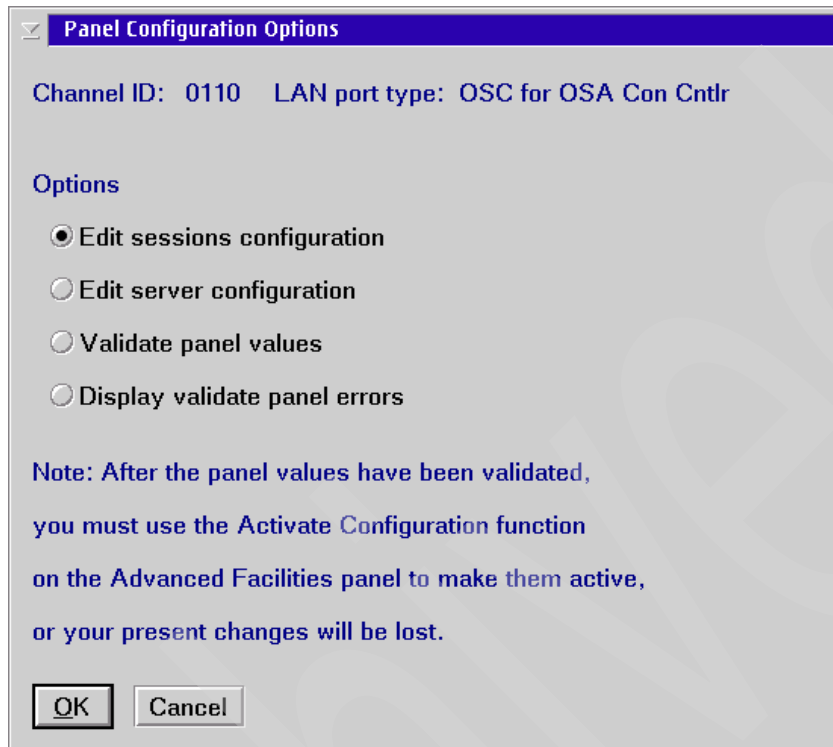

Figure 3-6 Panel configuration options
1. Starting with the Advanced Facilities panel, click **Panel configuration options**, and click **OK**. The Panel Configuration Options panel is displayed (see Figure 3-6).